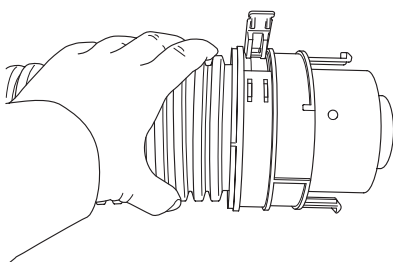

Fig. 20
6. Repeat the process for the 100mm air duct (Fig. 20)